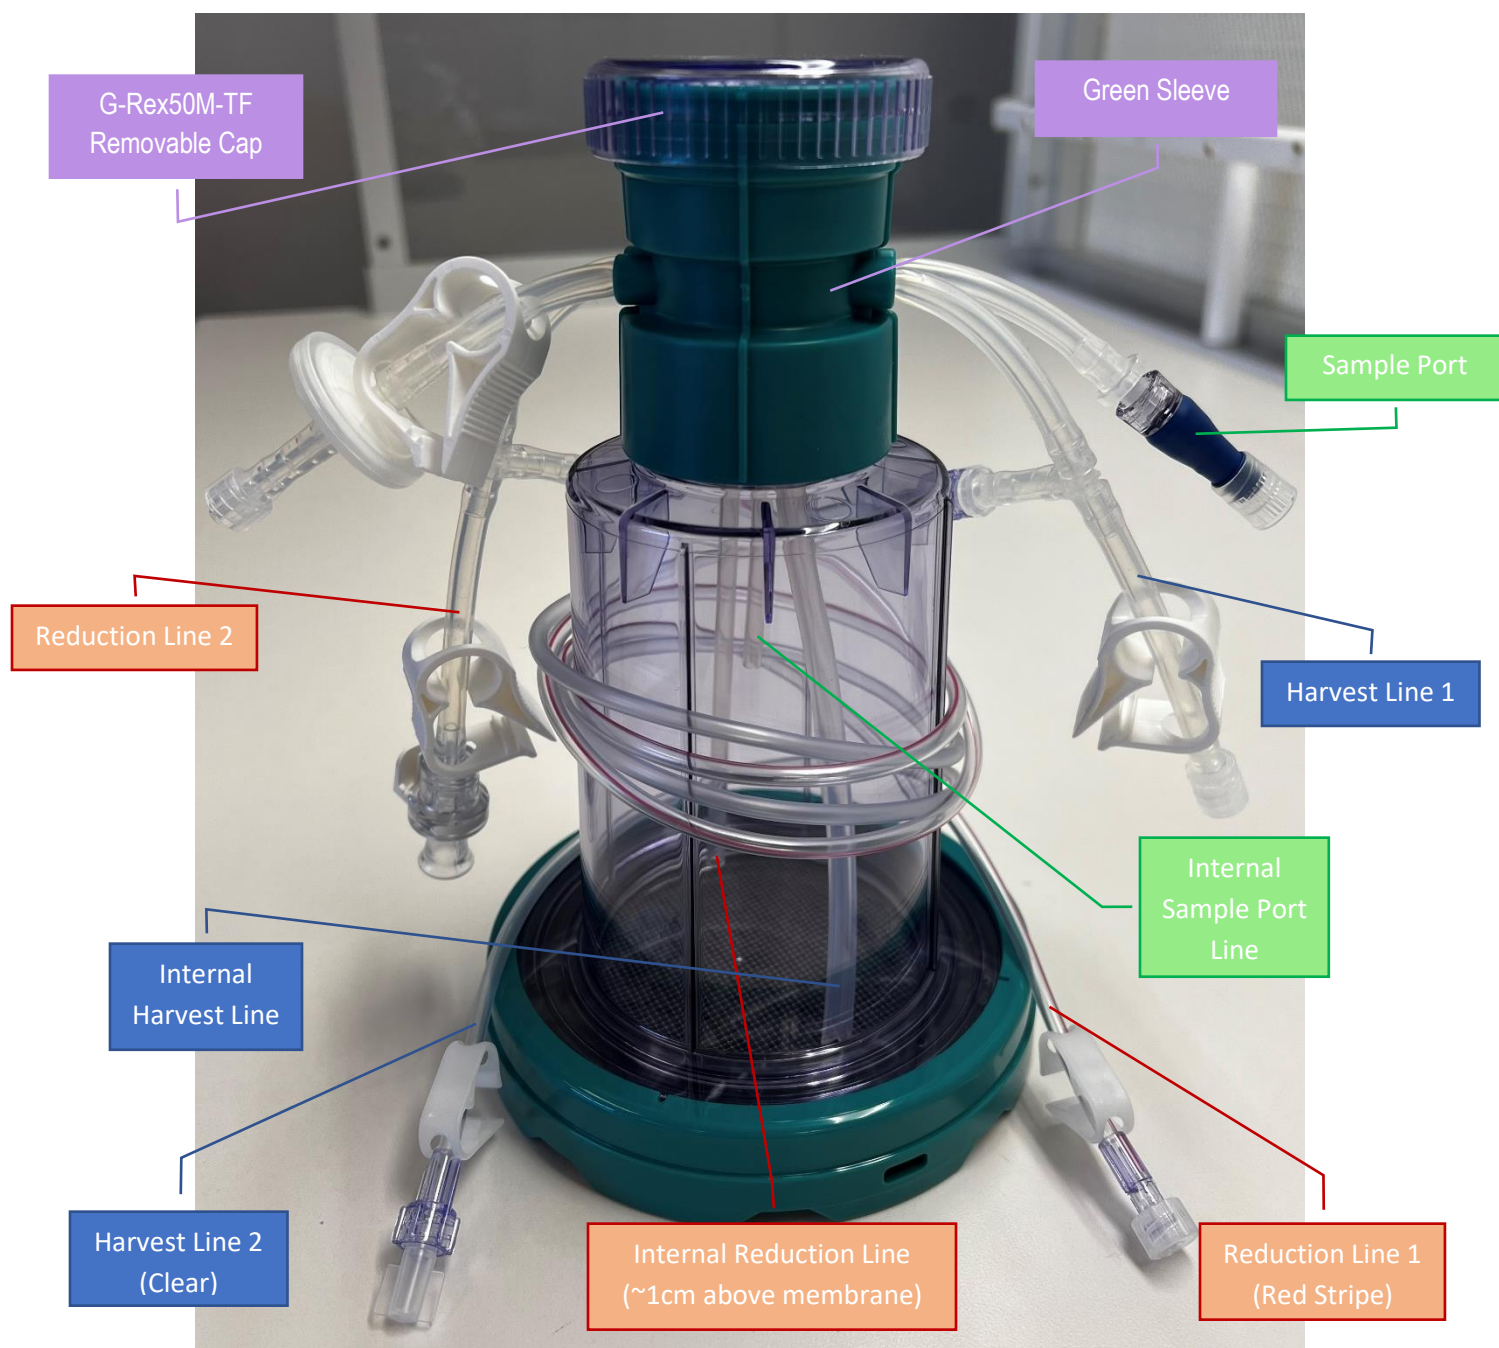

FIGURE 1: Reduction, Harvest, Sample Ports and All Three Internal Lines
- Sterile weld the processing bag to Reduction Line 1 (refer to Figure 1).
- Weld a 500 mL bag of Complete Media to Reduction Line 1 (refer to Figure 1) and gravity drain the Complete Media into the G-Rex 50M-TF. Do not exceed 550 mL fill volume.
- Place G-Rex in a standard incubator for four (4) to seven (7) more days without disturbing the cells or the culture.